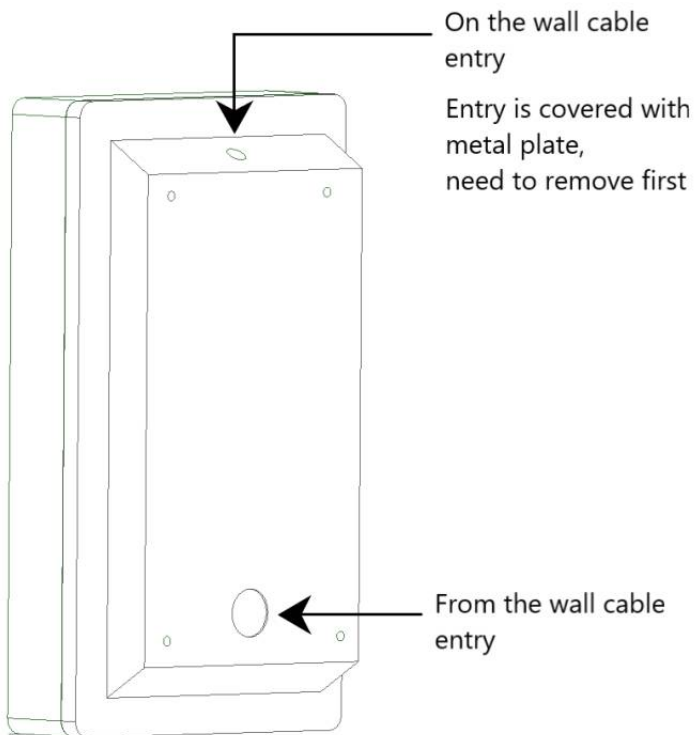

Figure 1.3 Cable entry into the E55 Plus Kiosk.
- On the wall. Must guide to the cable hole on top of E55 kiosk (see Figure 1.3)
- From the wall. Must guide the cable into cable hole area at the back side of E55 Plus (See Figure 1.3 and 1.4).
Cable entry for on wall cabling is covered with metal plate(See Figure 1.3). By using hammer, knock the cover until it detach.